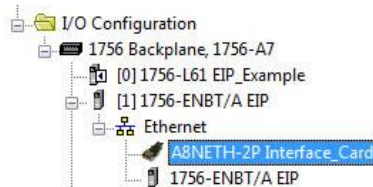

Figure 22: AOP Interface Card I/O Configuration
- 14) You should now see the interface card in the 1756-ENBT/A branch under the I/O Configuration in the controller organizer view. The full I/O Configuration tree should appear similar to Figure 22.